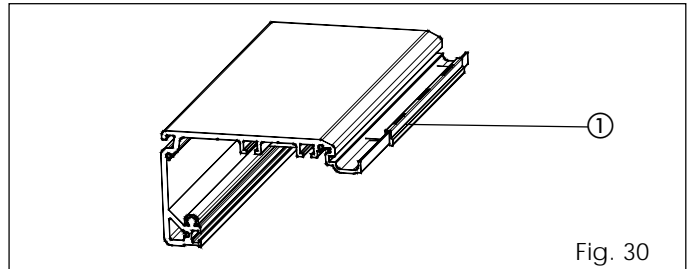

Fig. 30
- Fit three spacers (fig. 30 ref ①) on the outer edge of the support profile, positioning them at the ends and at the centre.